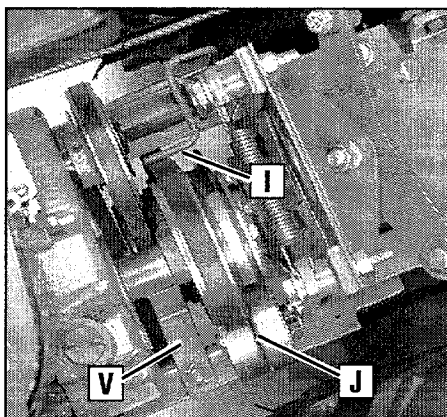
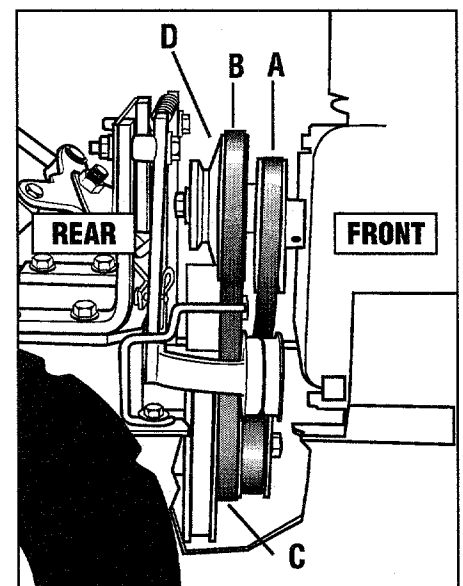
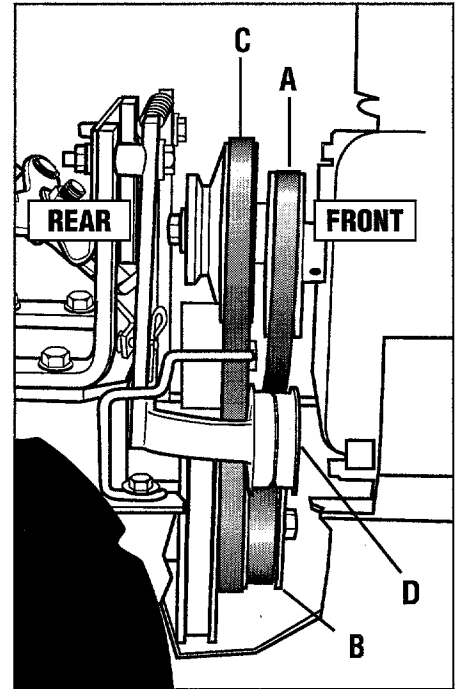

Figure 5-12: Top view of belts and pulleys.
Figure 5-16: Belt drive system.
Figure 5-18: Removing and installing reverse belt.
8. Replace the forward drive belt in the High speed groove (groove closest to engine) or the Low speed groove (rear-most) groove of the engine drive pulley and in the matching groove of the transmission pulley. Be sure the belt is to the inside of the wire formed belt guide (I, Figure 5-12) and to the inside of the forward drive idler pulley (J).
This model has two forward speeds (High and Low) and one reverse speed. The forward engine pulley (D, Figure 5-16) has two grooves for the two forward speeds. The reverse engine pulley (A, Figure 5-16) has one groove for the one reverse speed. The transmission pulley (C, Figure 5-16)
2. Remove the reverse drive belt (A, Figure 5-16) by following the "Removing the Reverse Drive Belt" instructions in this section.
3. Move the forward drive belt (B, Figure 5-16) completely off the engine forward drive pulley (D).
4. Slip the forward drive belt completely off the transmission drive pulley (C, Figure 5-16) by moving it to the front of the pulley.
2. Slip the forward drive belt down between the rear of the engine forward drive pulley (D, Figure 5-16) and feed the bottom half in between the engine and transmission pulleys (see Figure 5-17). Be sure that the belt is to the inside of the forward idler pulley and forward belt guide (see J and I, Figure 5-12).
3. Slip the forward drive belt down and over the front of the transmission pulley (C, Figure 5-16). **NOTE:** For additional working room, loosen the reverse belt guide (V, Figure 5-12) and twist it out of the way.
4. Put the lower half of the belt into the High speed groove (middle groove) or the Low speed groove (rearmost groove) of the transmission pulley (C, Figure 5-16).
5. Put the upper half of the belt in the High speed groove (groove closest to engine) or the Low speed groove (rearmost groove) of the engine forward drive pulley (D, Figure 5-16)e.
IMPORTANT: Make sure that the forward drive belt is to the inside of the wire belt guide (I, Figure 5-12) and the forward idler pulley (J, Figure 5-12).
3. Slip the reverse belt off the engine reverse pulley (A, Figure 5-18). If necessary, work the belt off the pulley with your left hand while pulling the engine recoil starter rope with your right hand.
4. Push the upper half of the reverse belt downward to create slack in the belt. Then reach underneath the transmission and slip the belt off the front of the transmission pulley (B, Figure 5-18).
5. Pull the belt up and past the engine reverse pulley (A, Figure 5-18).
1. Slip the reverse belt down between the engine reverse pulley (A, Figure 5-18) and the engine forward drive pulley (C).
2. Loop the bottom half of the belt over the front of the transmission pulley (B, Figure 5-18) and seat the belt in the front groove of the pulley.
3. Place the belt to the inside of the reverse idler pulley (D, Figure 5-18) and the reverse belt guide (V, Figure 5-12). Then slip the upper end into the groove of the engine reverse pulley (A, Figure 5-18).
4. If the reverse belt guide (V, Figure 5-12) was loosened previously, center the belt guide on the belt and tighten the mounting screw securely.